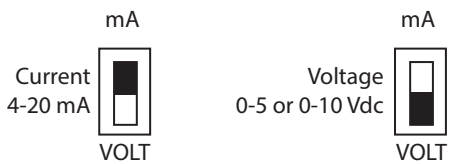

Figure 8
The optional relay output connects to the RELAY terminals. The relay output is completely isolated and has a Normally Open (NO) signal. This signal can be used to directly control an alarm or ventilation fan. See specifications for contact ratings. See Figure 8.